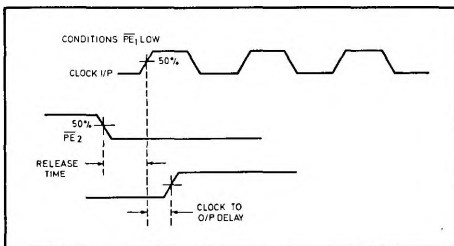

Fig. 4 Release timing diagram
- Release time is defined as the minimum time that can elapse between a H \rightarrow L transition of a control input and the next L \rightarrow H clock pulse to ensure that the $\bar{2}$ 11 mode is forced by that clock pulse (see Fig. 4).